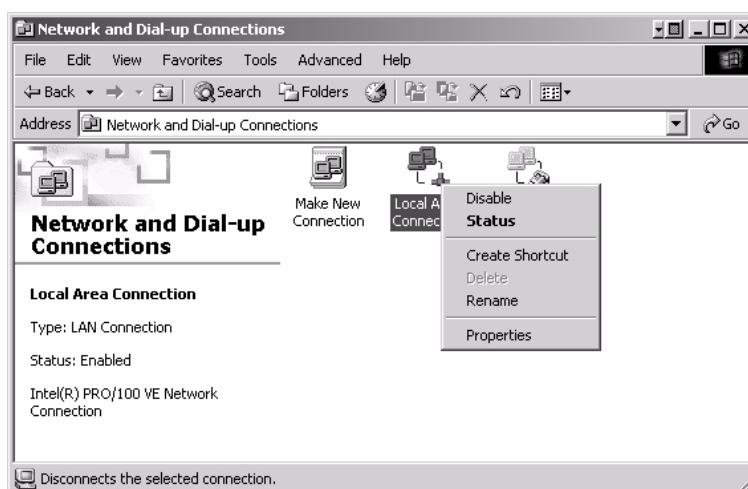

Figure 63: Network and Dialup Connections - Windows 2000
2. A list of network connections appears as shown in Figure 63. The Local Area Connection icon must appear on the page. If it does not, the network is not installed correctly.